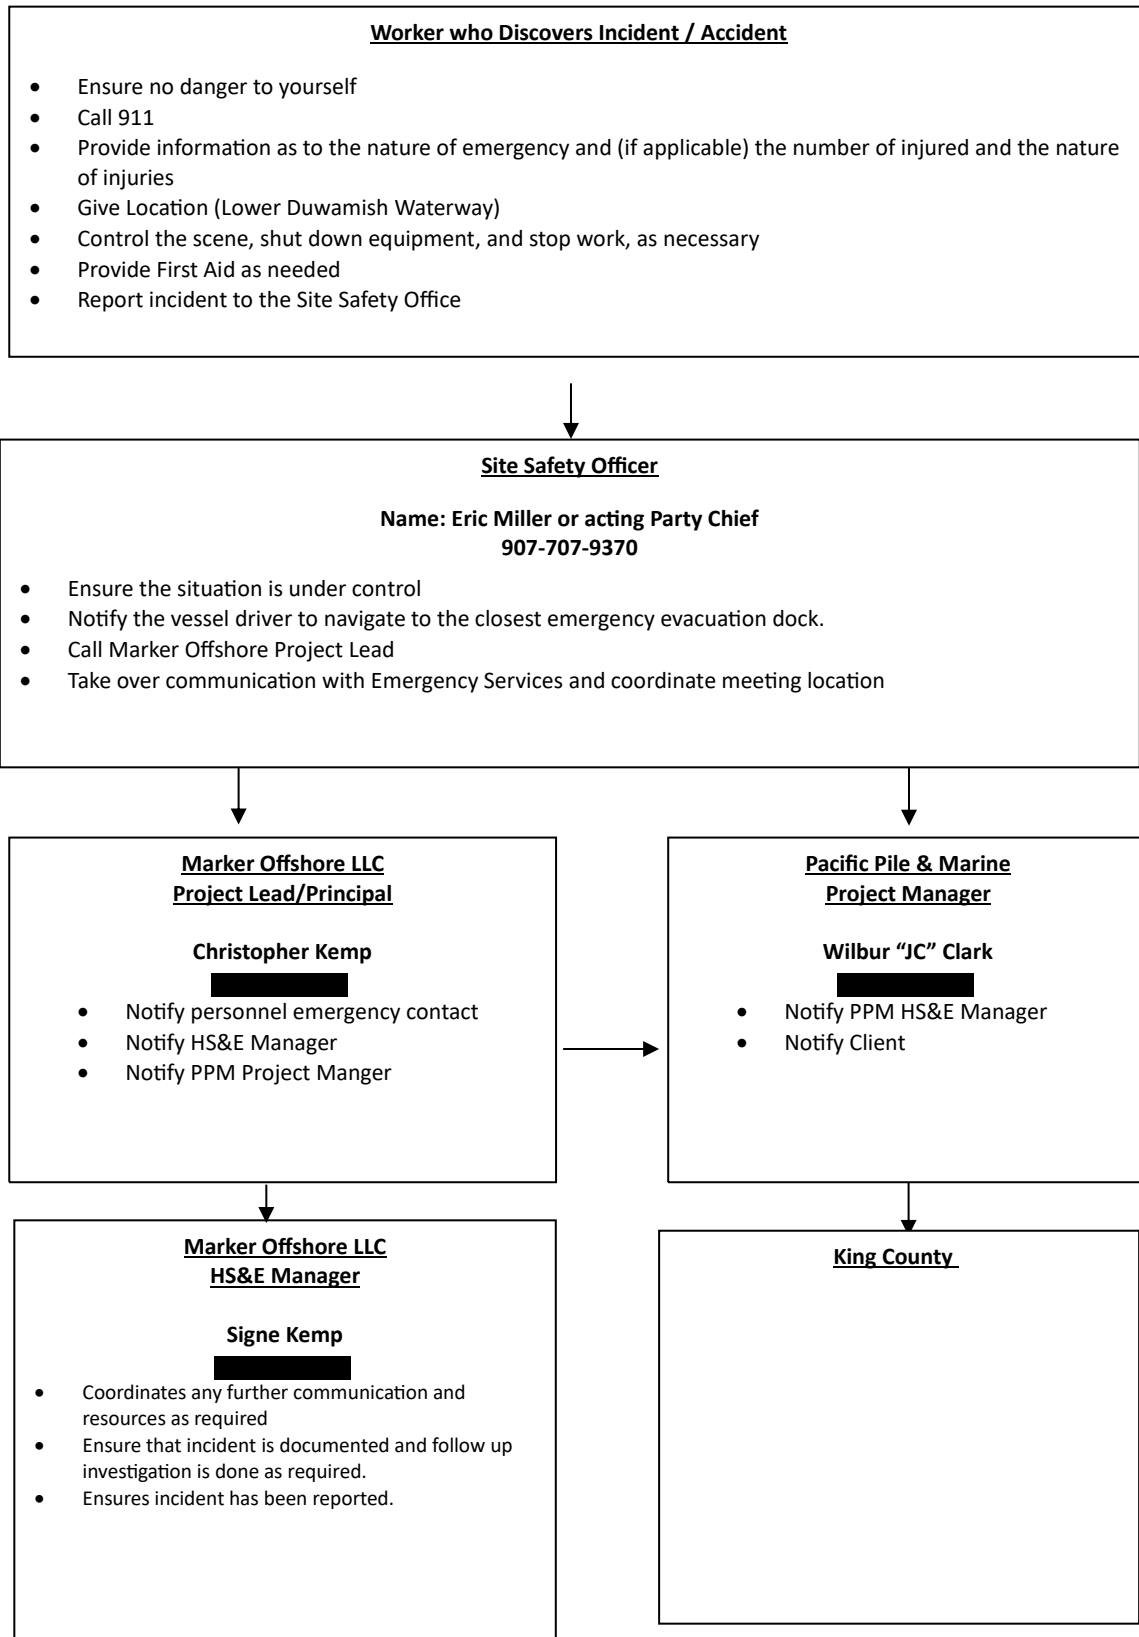
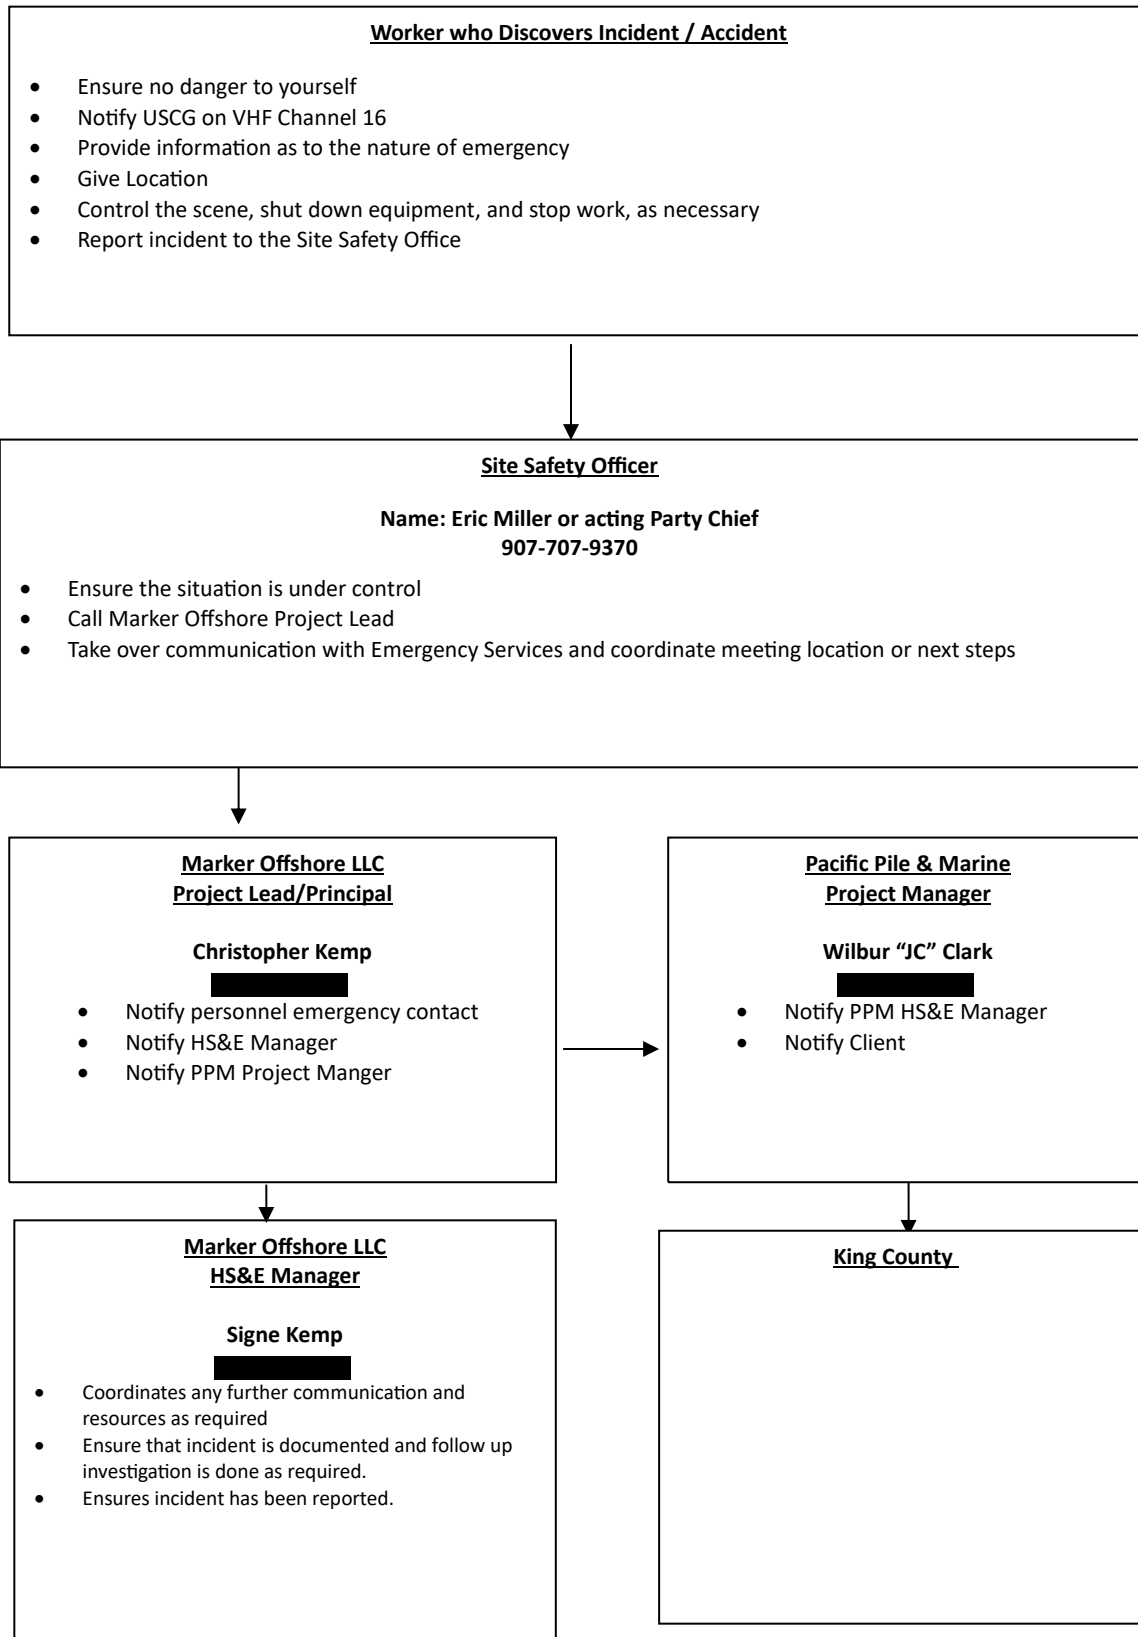

Figure 2. Incident/Accident Communication Chart with Medical Emergency
Figure 3. Incident/Accident Communication Chart with Hazard to Navigation
- The Site Safety Officer, who will communicate with the vessel driver, emergency services, and the project lead. Chain of communication will continue as detailed in Figure 2 or Figure 3.